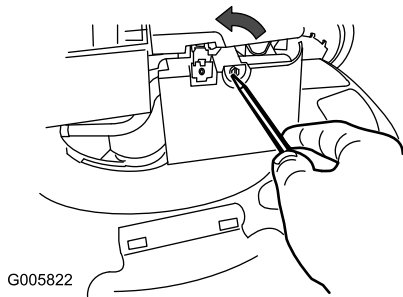

Figure 25
1. Use a screw driver to open the air-filter cover (Figure 25).